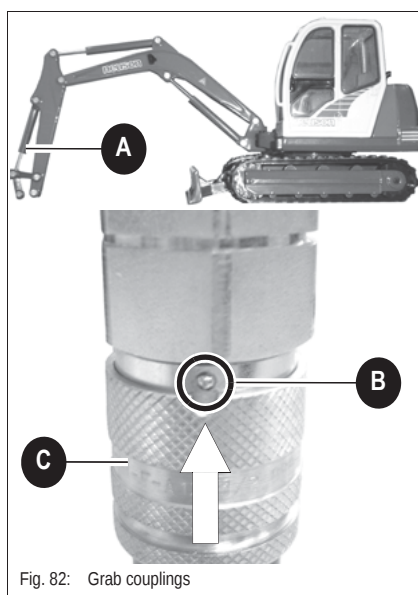

Fig. 82: Grab couplings
- Pull the coupling sleeve away from the ball (Fig. 82) until it stops moving.
- Rotate the sleeve (Fig. 82) to misalign the slot in the sleeve with the ball in the opposite half of the coupling. This will prevent unintended sleeve movement that may cause the coupling to disconnect unintentionally.